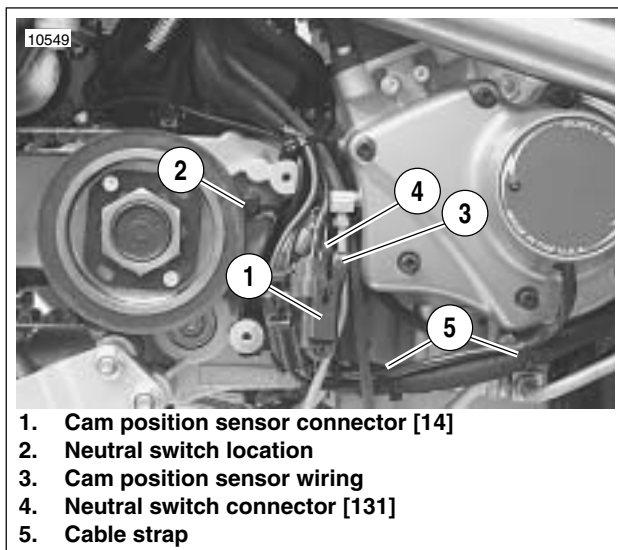

Figure 7-88. Neutral Switch Wiring
6. See Figure 7-88. Form a loop (6) as shown using neutral switch wiring.